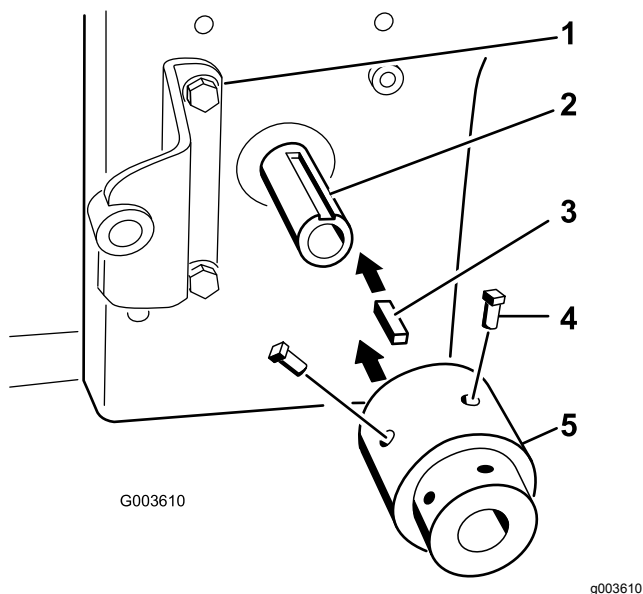

Figure 20
6. Install the square key (1/4 x 1 inch) into the slot in the engine PTO shaft (Figure 20).
7. Align the hub assembly with the square key and install it onto the engine PTO (power takeoff) shaft (Figure 20).
8. Apply removable thread-locking compound to the 2 setscrews (5/16 x 3/4 inch) and install them into the hub assembly to secure it to the PTO shaft (Figure 20).